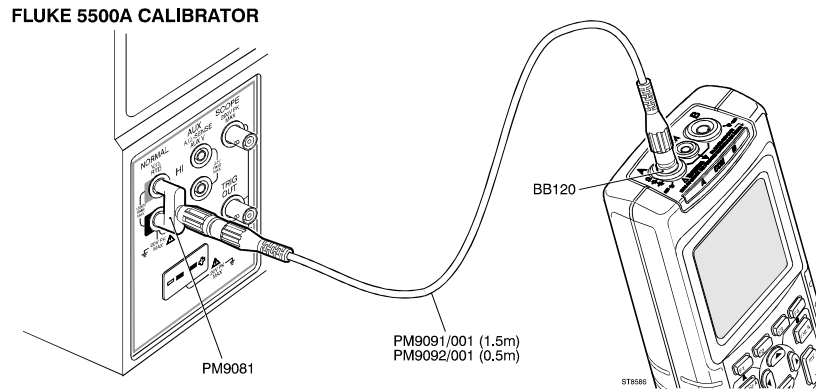

Figure 4-12. Test Tool Input 1 to 5500A Normal Output
1. Connect the test tool to the 5500A as show in Figure 4-12.